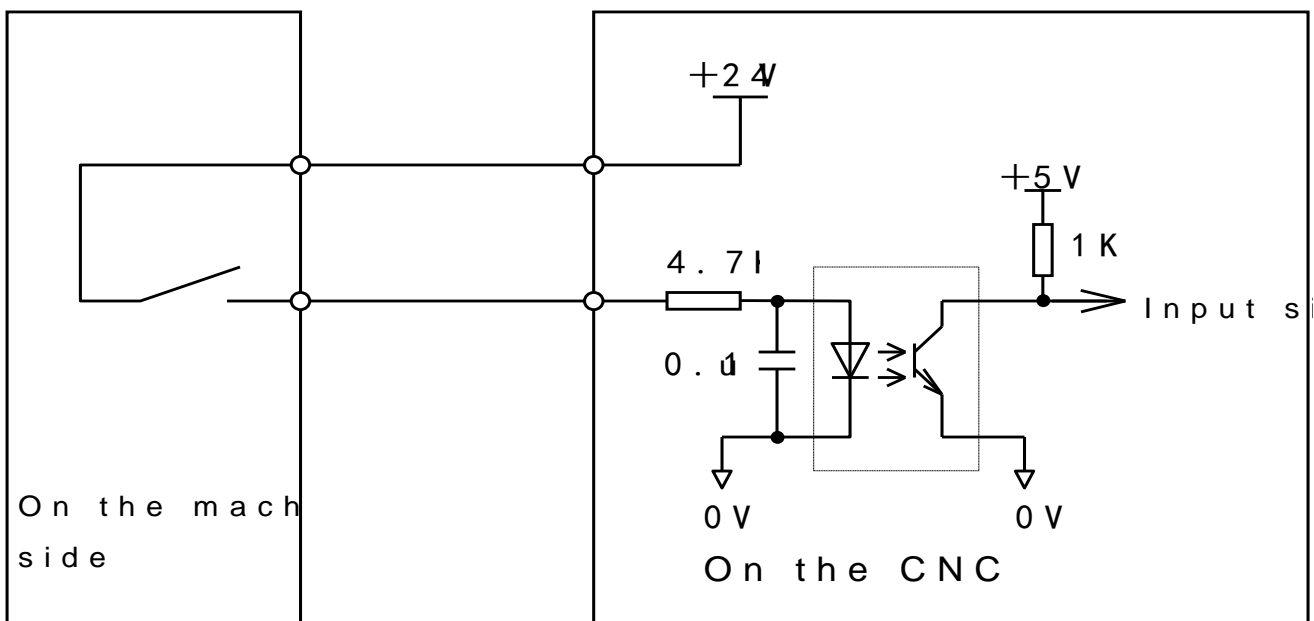

Figure 3-2-1
b) The signal loop for this type of signal is as shown in Figure 3-2-1